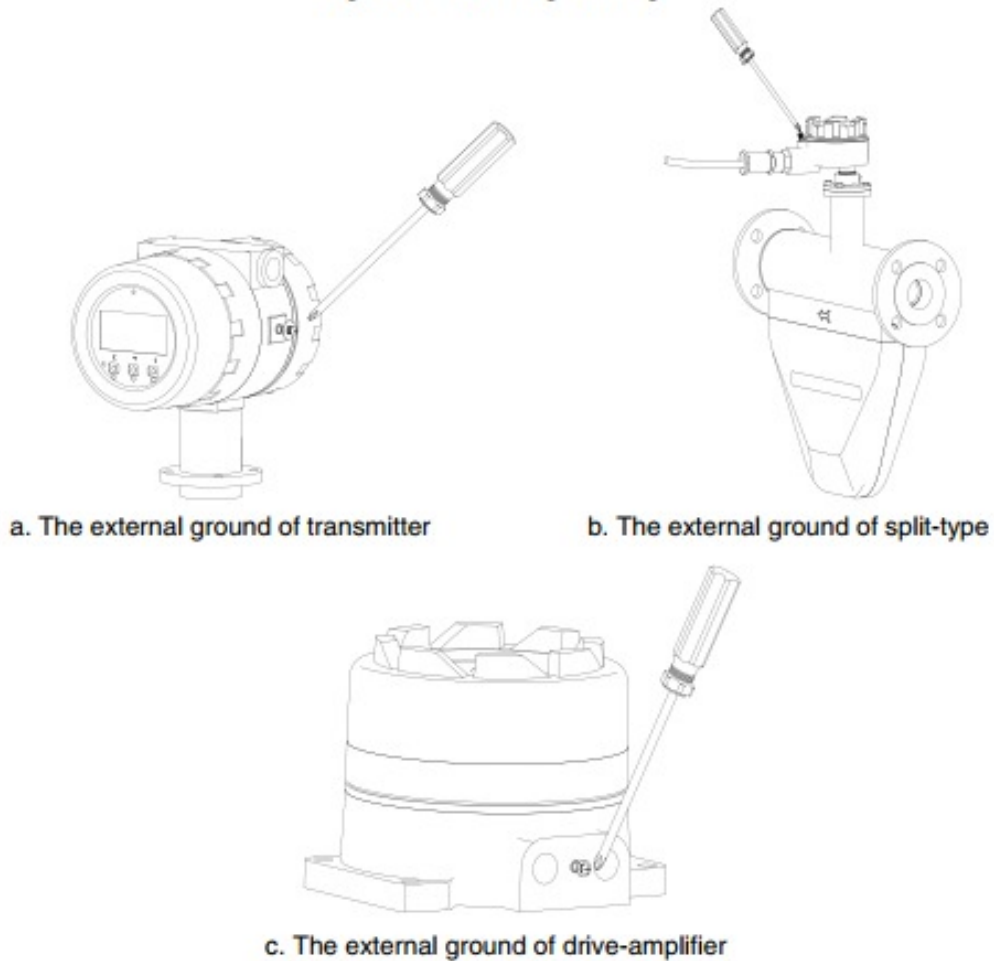

Fig. 4.13 External grounding
- The cross-sectional area of the external grounded wire must be ≥ 4mm2, and the external grounding position is shown in figure 4.13 below.